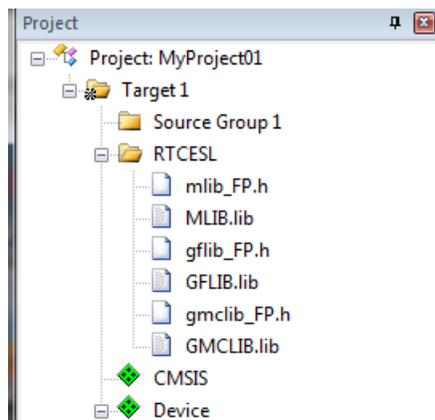

Figure 1-36. Project workspace
10. Now, all necessary files are in the project tree; see Figure 1-36. Click Close.